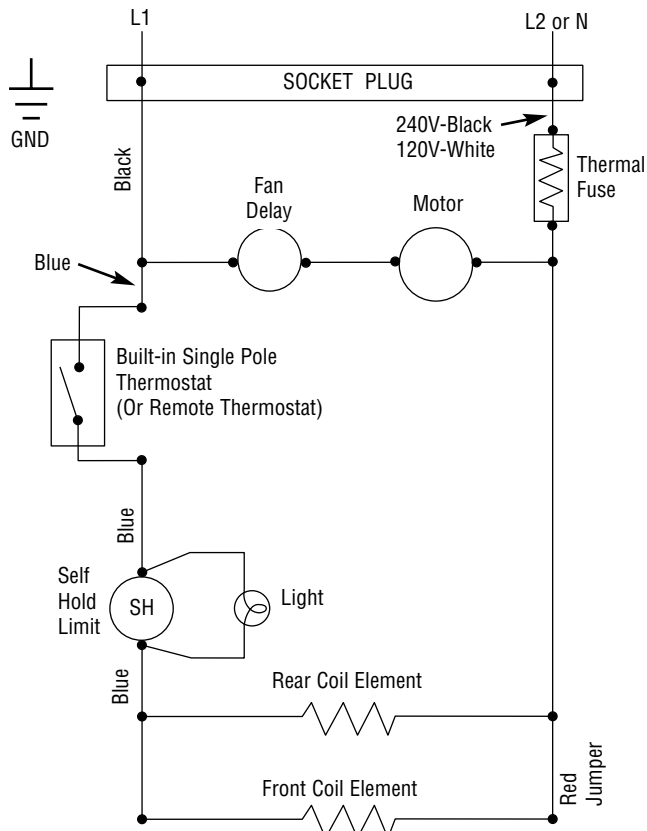

Figure 2 - Wiring With Internal Heater Mounted Thermostat (For lower wattage rating, remove red jumper)
5. Make wiring connection, attaching field wiring to two (2) black pigtail leads for 240/208V model, or to black and white pig tail leads for 120V model with wirenuts (provided). Connect field ground lead to ground pigtail with wirenut (provided). See Figure 2.